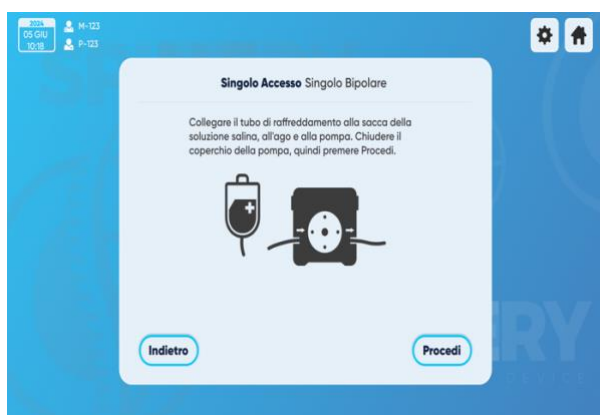

Figure 8 – Single Access Cooling Connection Screen
4. The illustrated instructions (Figure 8/9) ask you to connect the cooling connection tip to the saline bag from one end to the probe at the other end and to place the propulsion tube in the peristaltic pump.